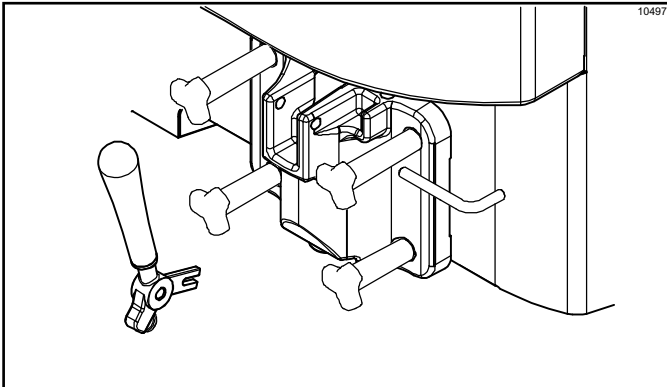

Figure 6-13
7. Slide the fork of the draw handle into the slot of the draw valve. Secure with the pivot pin. (See Figure 6-13.)